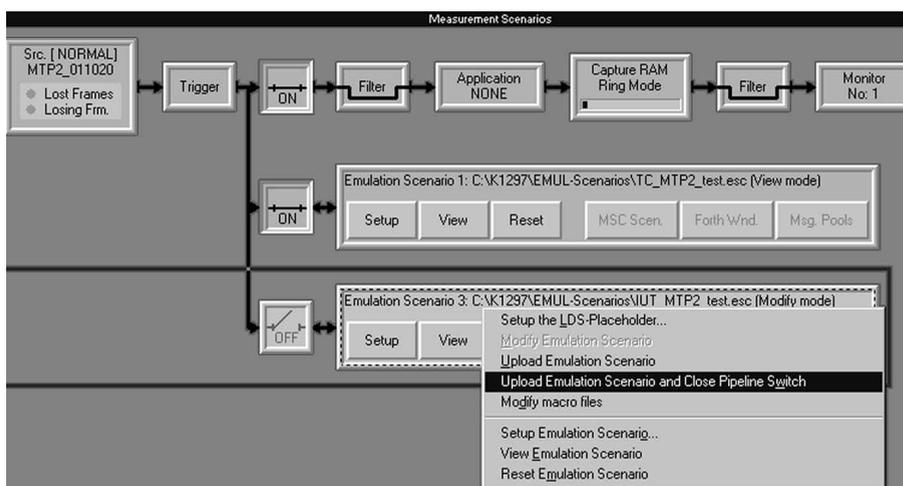

Figure 6: Context menu with *Upload Emulation Scenario and Close Pipeline Switch*
2. Upload the emulation scenario and close the pipeline switch for the emulation scenario branches: first for the Test Center branch, then for the Item under Test branch (see figure 6).